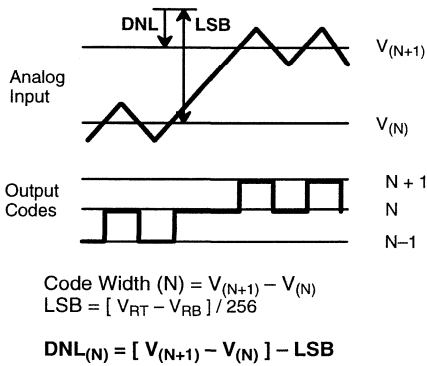
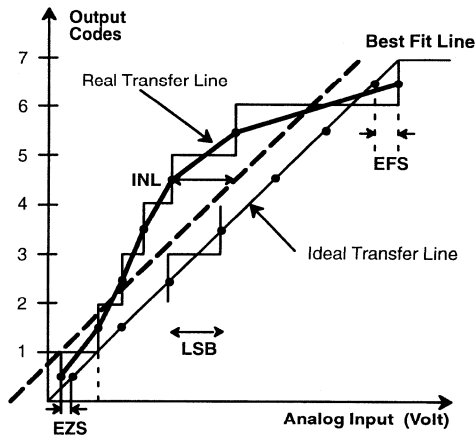

Figure 2. DNL Measurement
Figure 3. INL Error Calculation
- Tester measures code transitions by dithering the voltage of the analog input (V_{IN}). The difference between the measured and the ideal code width (V_{REF}/256) is the DNL error (Figure 2). The INL error is the maximum distance (in LSBs) from the best fit line to any transition voltage (Figure 3). Accuracy is a function of the sampling rate (FS).